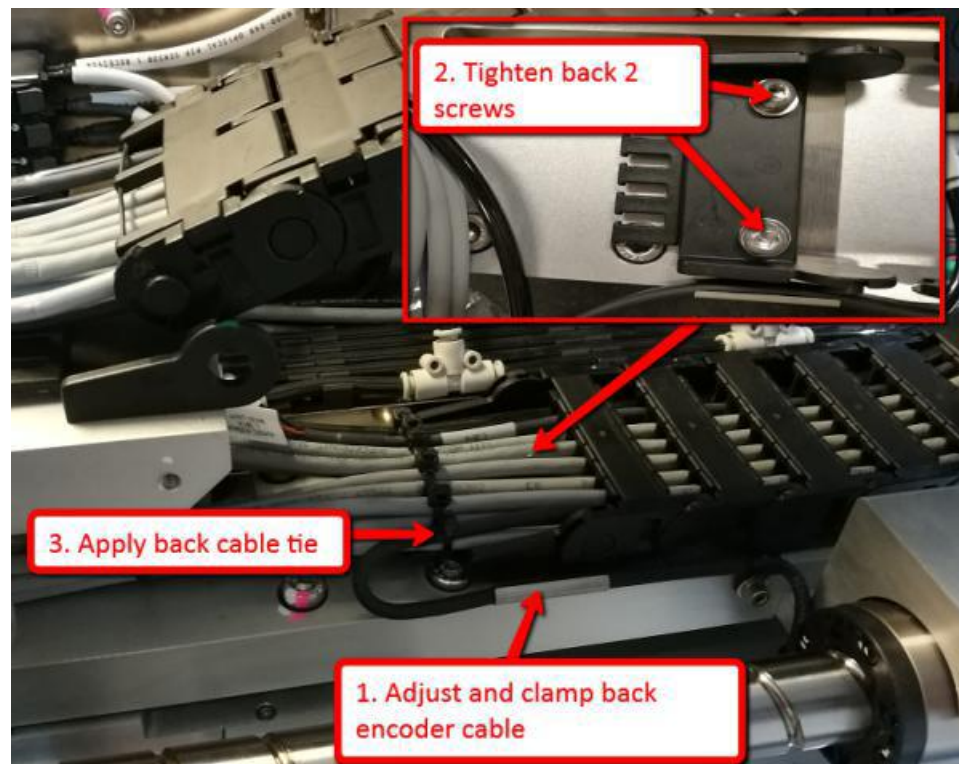

Figure 23
- Clamp back X-axis encoder cable and tighten back 2 screws as shown in Figure 23. Apply necessary cable tie.